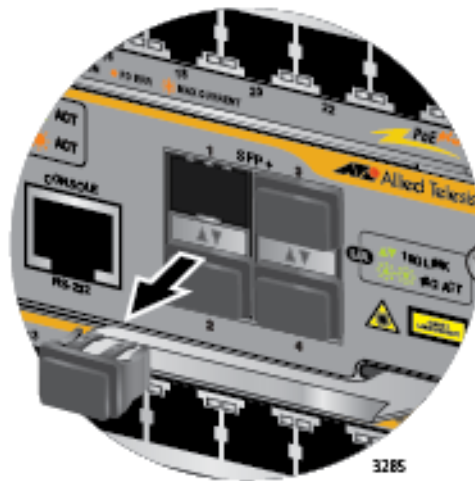

Figure 95. Removing a Dust Cover from an SFP+ Slot in the AT-SBx81CFC960 Controller Fabric Card
1. Remove the dust plug from the slot chosen for the SFP+ transceiver. Refer to Figure 95.